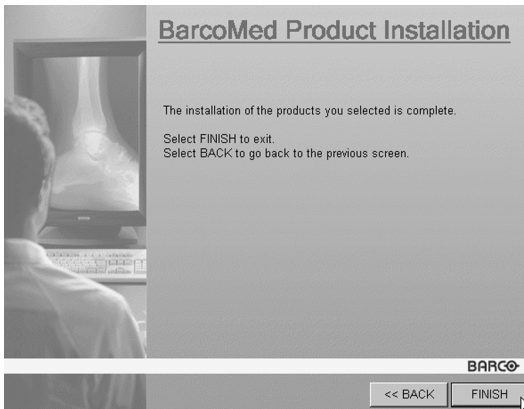

Figure 15
20. The wizard will now display the screen shown in figure 15 below. If you are finished installing your BarcoMed Software, click **“Finish”** to exit the BarcoMed Product Install Wizard or click **“Back”** to return to the Welcome Screen of the BarcoMed Product Install Wizard to select additional software to install.